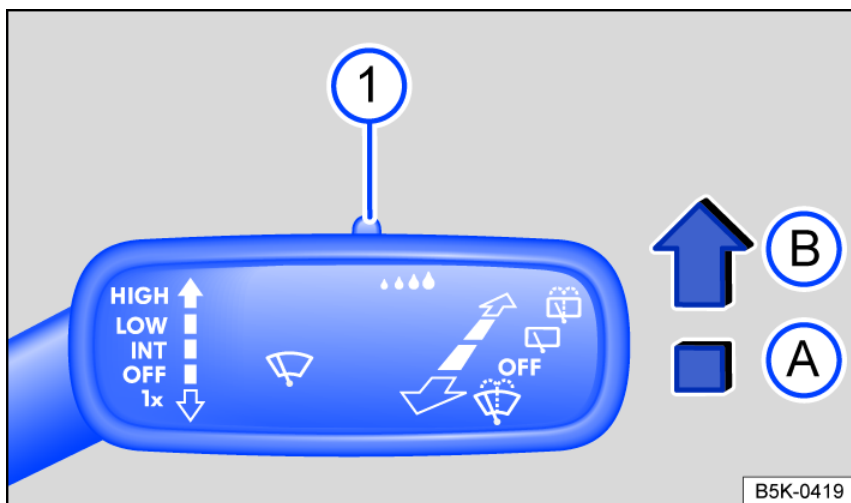

Fig. 98 On the right side of the steering column: windshield wiper lever.
Press the lever into the desired position *fig. 98*:
The sensitivity of the rain/light sensor can be manually adjusted with the switch in the windshield wiper lever *fig. 98* ① ⇒ ⚠.